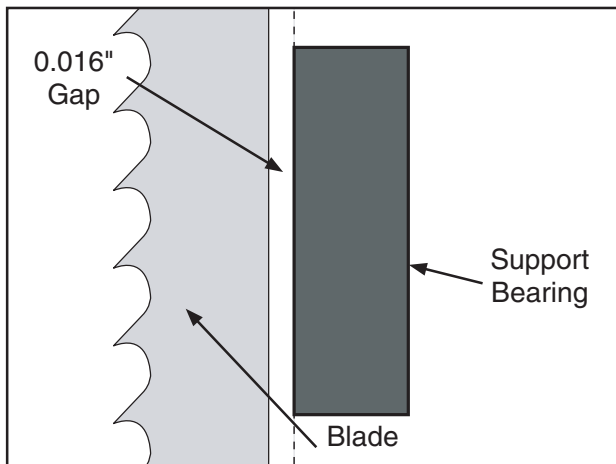
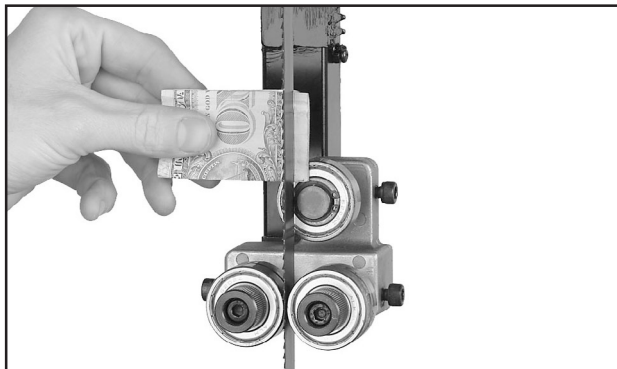

Figure 42. Blade aligned 0.016" away from the bearing edge.
Figure 43. Example of dollar bill folded twice to make an approximate 0.016" gauge.
7. Using a feeler gauge between the support bearing and the blade, position the bearing 0.016" away from the back of the blade, as illustrated in **Figure 42**.
Note: For a quick gauge, fold a crisp dollar bill in half twice (four thicknesses of a dollar bill is approximately 0.016") and place it between the support bearing and the blade as shown in **Figure 43**.
7. Using a feeler gauge, position the bearing 0.016" away from the back of the blade, as illustrated in **Figure 42**, or use a dollar bill, as shown in **Figure 43**.